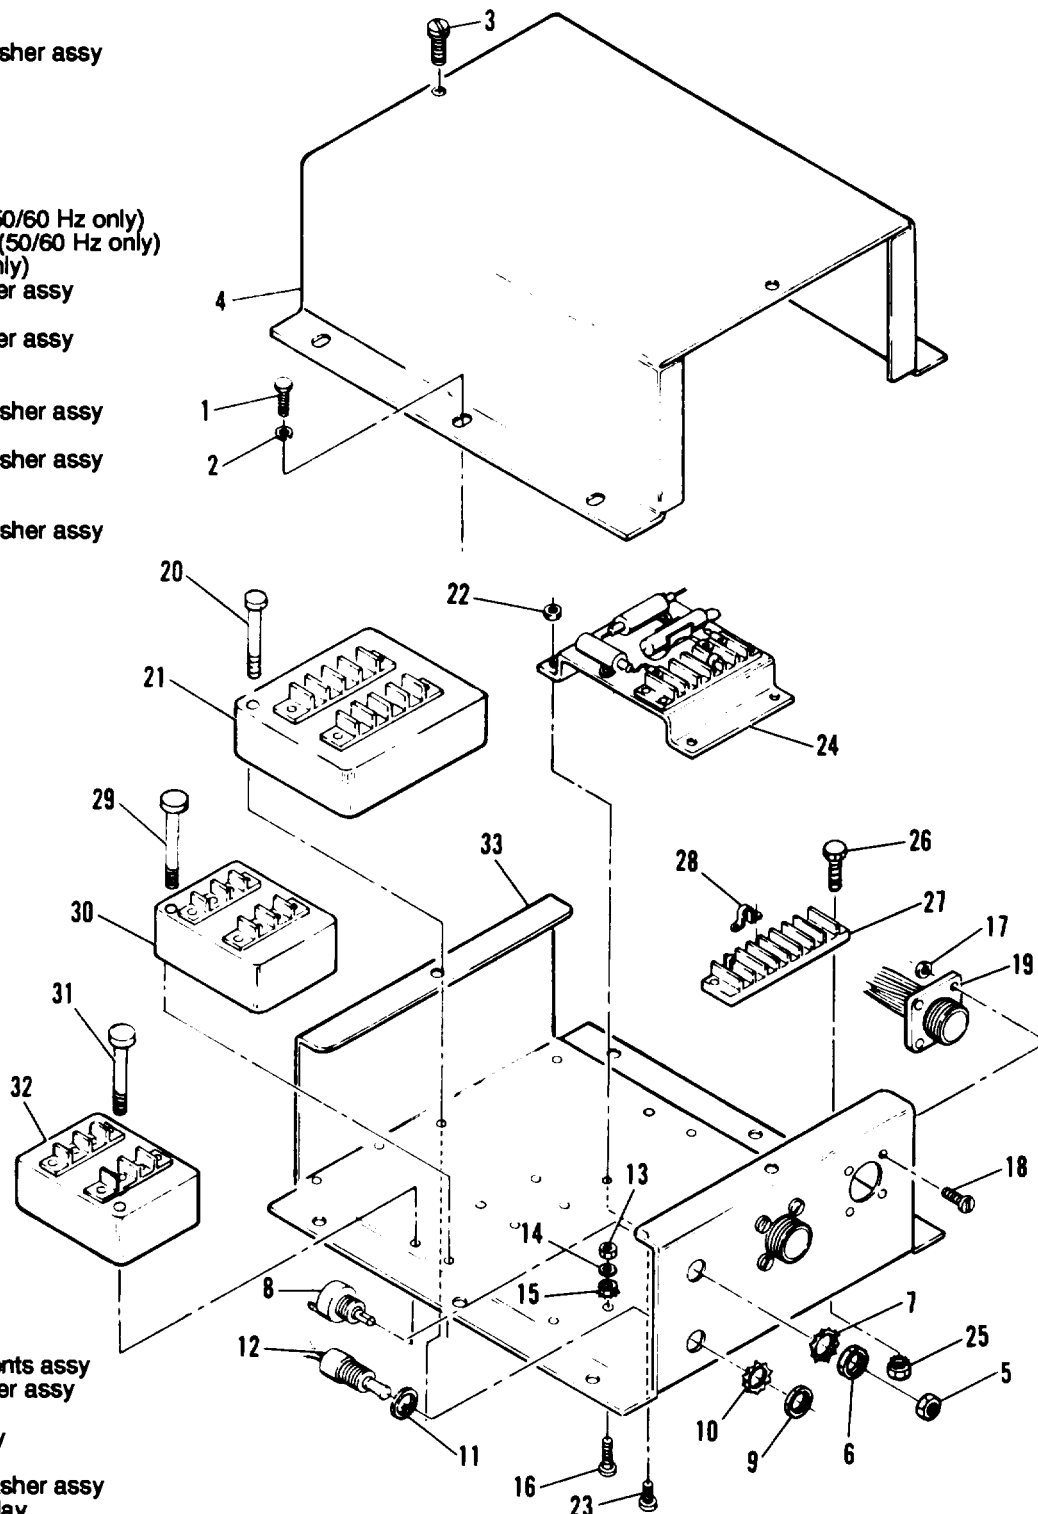

Figure 3-123. Precise Relay Assembly, Exploded View
- (1) Position chassis (33, figure 3-123) to install permissive paralleling relay (32) and screw & captive washer assembly (31).
- (2) Install under frequency relay (30), screw & captive washer assembly (29).
- (3) Install terminal jumper (28), terminal board assembly (27), screw (26), nut & captive washer assembly (25).
- (4) Install electronic components assembly (24), screw & captive washer assembly (23) and nut (22).
- (5) Install under voltage relay (21), screw & captive washer assembly (20).
- (6) Install wiring harness (19), screw & captive washer assembly (18), and nut (17).
- (7) Install screw (16), nut & captive washer assembly (15), flatwasher (14), nut & captive washer assembly (13).
- (8) Install switch (12), positioning washer (11), tooth lockwasher (10) and nut (9).
- (9) Install rheostat (8), tooth lockwasher (7), nut (6), and locknut (5).
- (10) Install cover (4), screw & captive washer assembly (3).
- (1) Position precise relay assembly to install lockwashers (2, figure 3-123) and screws (1).
- (2) Connect electrical connectors to precise relay assembly.